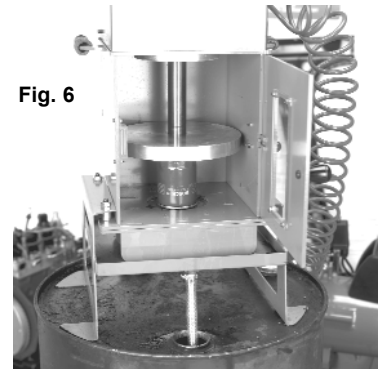

Fig. 6
- 4.1.1 Place the filter to be crushed in the centre of the unit and slowly operate the pump until the crushing plate is close to, or just touching, the filter. Check the alignment of the crushing unit with the plate. Refer to Fig. 6.